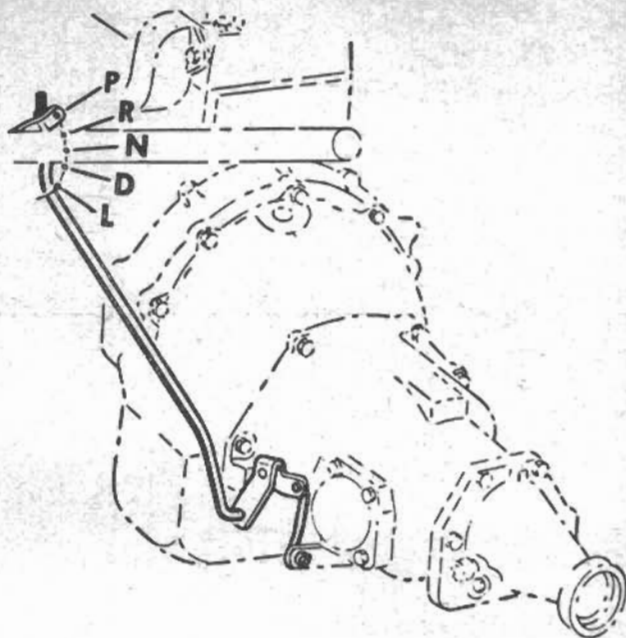

Fig. 27 Shift linkage adjustment. 1958-59 Powerglide
1. With engine stopped, lift up on range selector lever and move the lever to the position where transmission Drive detent is felt, Fig. 27. Slowly release lever to see if lever lock pin freely enters lock plate. Check Reverse range in similar manner. If the lock pin does not freely enter the lock plate in both Drive and Reverse ranges, adjust as follows: